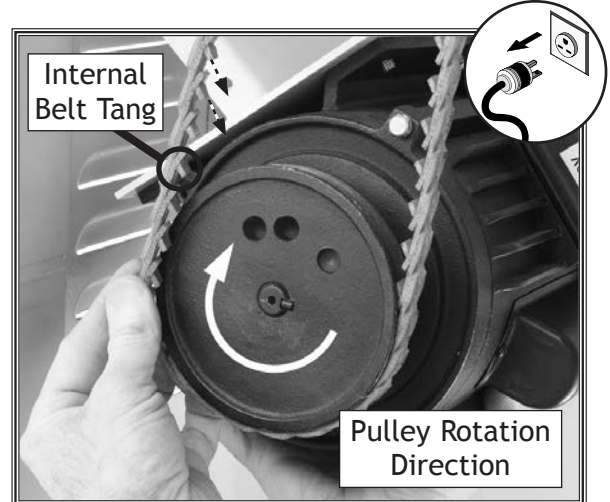

Figure 12. Motor pulley belt installation.
8. Keeping your fingers clear of pinch points, lift the motor and roll the belt onto the motor pulley as shown in **Figure 12**.